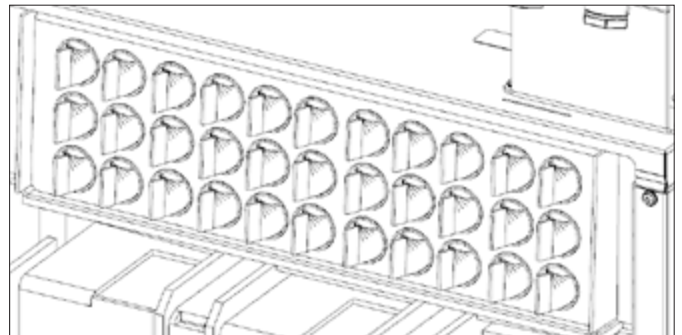

Figure 10-4: Spiral turbulators (26-46 shown)
4. Check that all the spiral turbulators are in position and that all the ends are vertical. Refer to Figure 10-4.